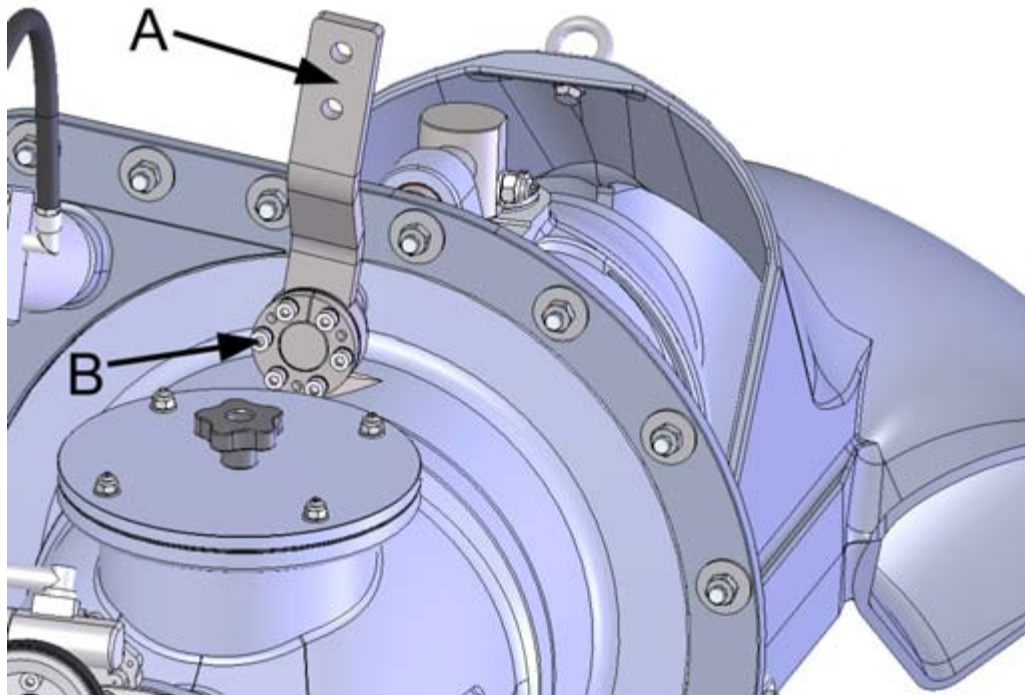

Figure 65. Removing the steering device
2. Remove the steering device from the front end lever (figure 65, point A).
3. Loosen the screws of the lever fastening sleeve (6 pcs, figure 65, point B).